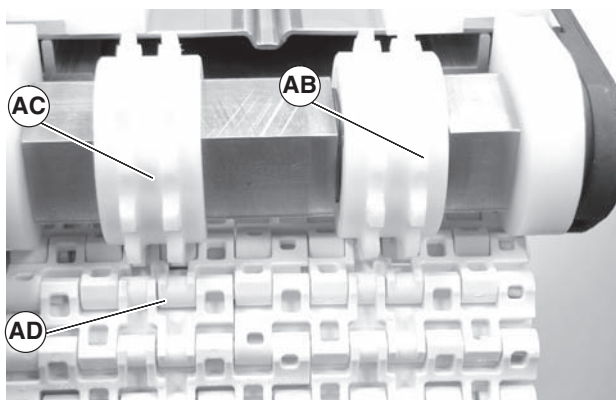

Figure 12
2. For 17.25" wide and 23.25" wide belts, align the belt to the retained center sprocket (Figure 12, item AB) on the drive end of the conveyor.
4. Aligning free moving sprocket(s) (Figure 12, item AC) to the drive pocket(s)(AD). Wrap belt around sprockets and pull towards idler end.